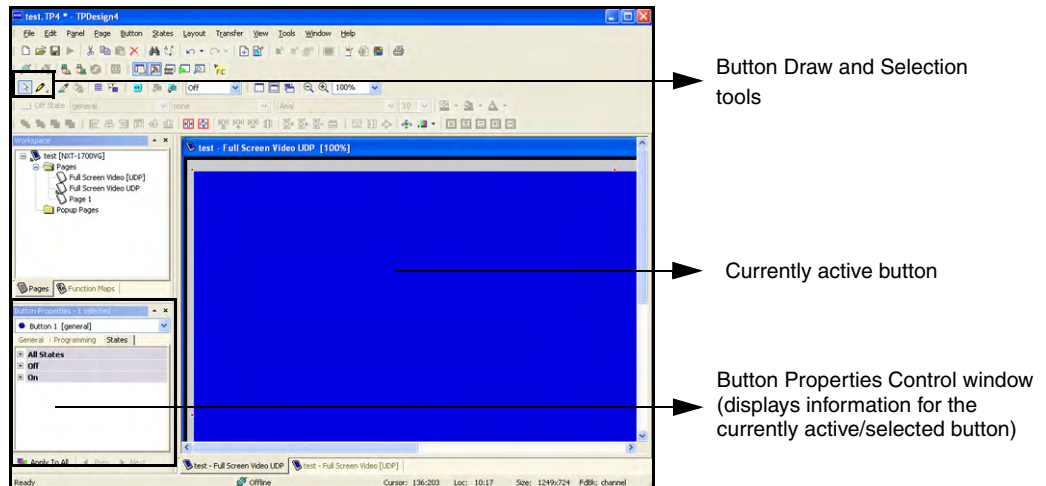

FIG. 44 Button Properties tab
8. Press the **Selection Tool** (CTRL+L) to grab the new button and stretch it to fill a desired area of the page. For our procedures, we stretched the new button to fill the entire available are of the newly created page (FIG. 44).
9. With the button currently selected and active, navigate to the left section of the Workspace and find the **Button Properties** Control window (FIG. 44).